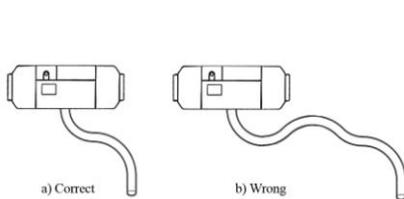

Fig. 22
4.6.3 Both the air inlet pipe and exhaust pipe shall come outwards and downwards from the heater (Fig. 22), otherwise a $\Phi 4\text{mm}$ hole shall be prepared at the bottom of the pipe for discharge of condensation water. If the pipe need curve, the radius cannot be smaller than 50mm. Also, the sum of all curve angles for each pipe shall not exceed 270° .